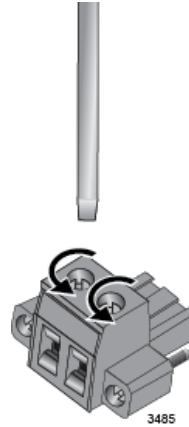

Figure 35. Loosening the Captive Screws on the DC Connector
4. Use a 3mm (0.125 in.) flat-head screwdriver to loosen the two captive screws on the top of the DC connector. Refer to Figure 35 on page 83.